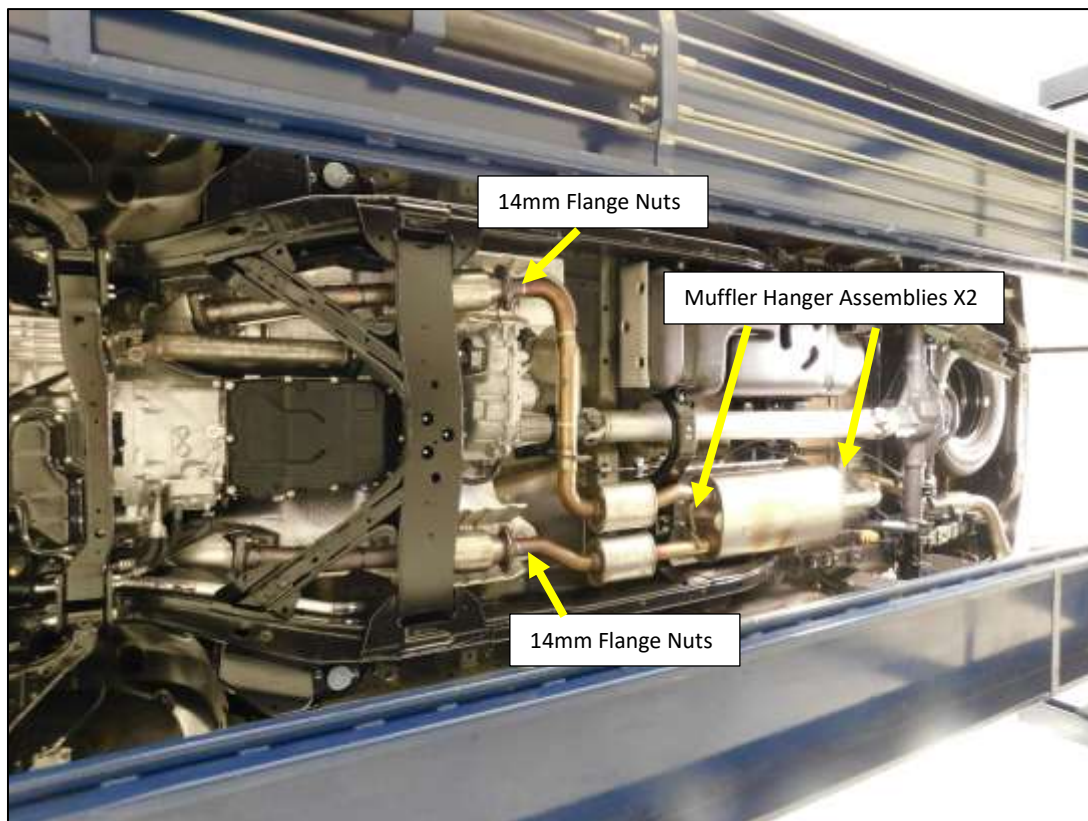

Figure.2
6. Remove the (x2 each) 14mm nuts at the flanges connecting the muffler inlet pipes to the catalytic converter. **Fig.2**